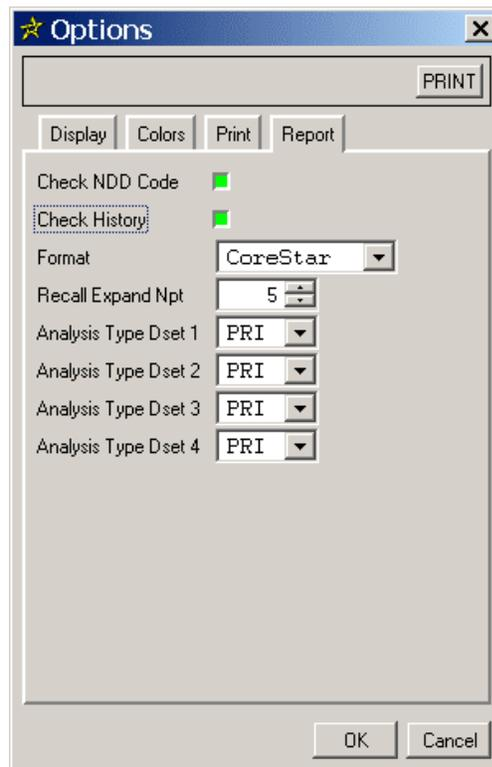

Figure 1-3. Options Dialog - Report Tab
- STEP 4:** The *Report* tab should look like Figure 1-3. Click *OK*.